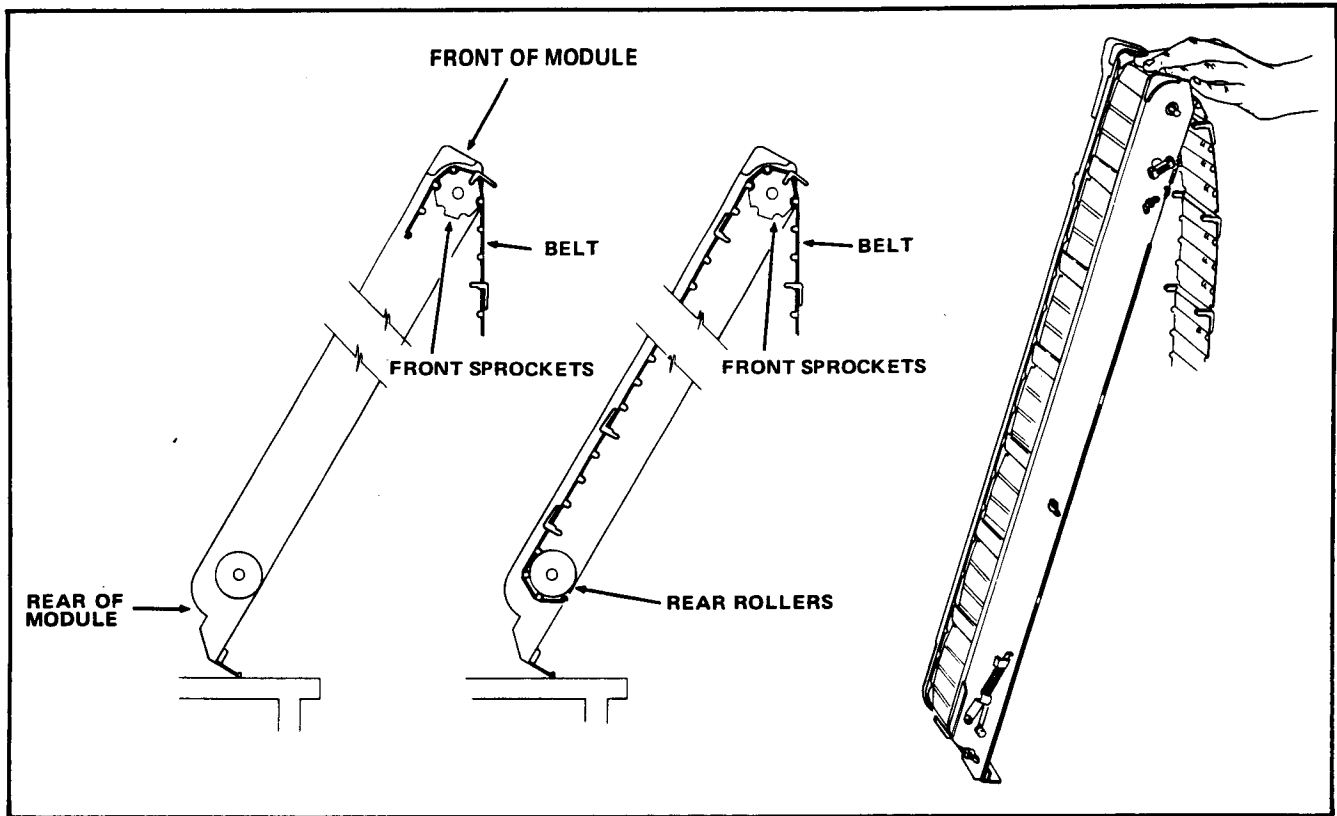

FIGURE 10
14. Holding the Belt in place on the Front Sprockets, stand the Module on its rear end and carefully thread the Belt through the front of the Module. See Figure 10.
15. Pull the Belt through the Module until it reaches the Rear Rollers. See Figure 10.